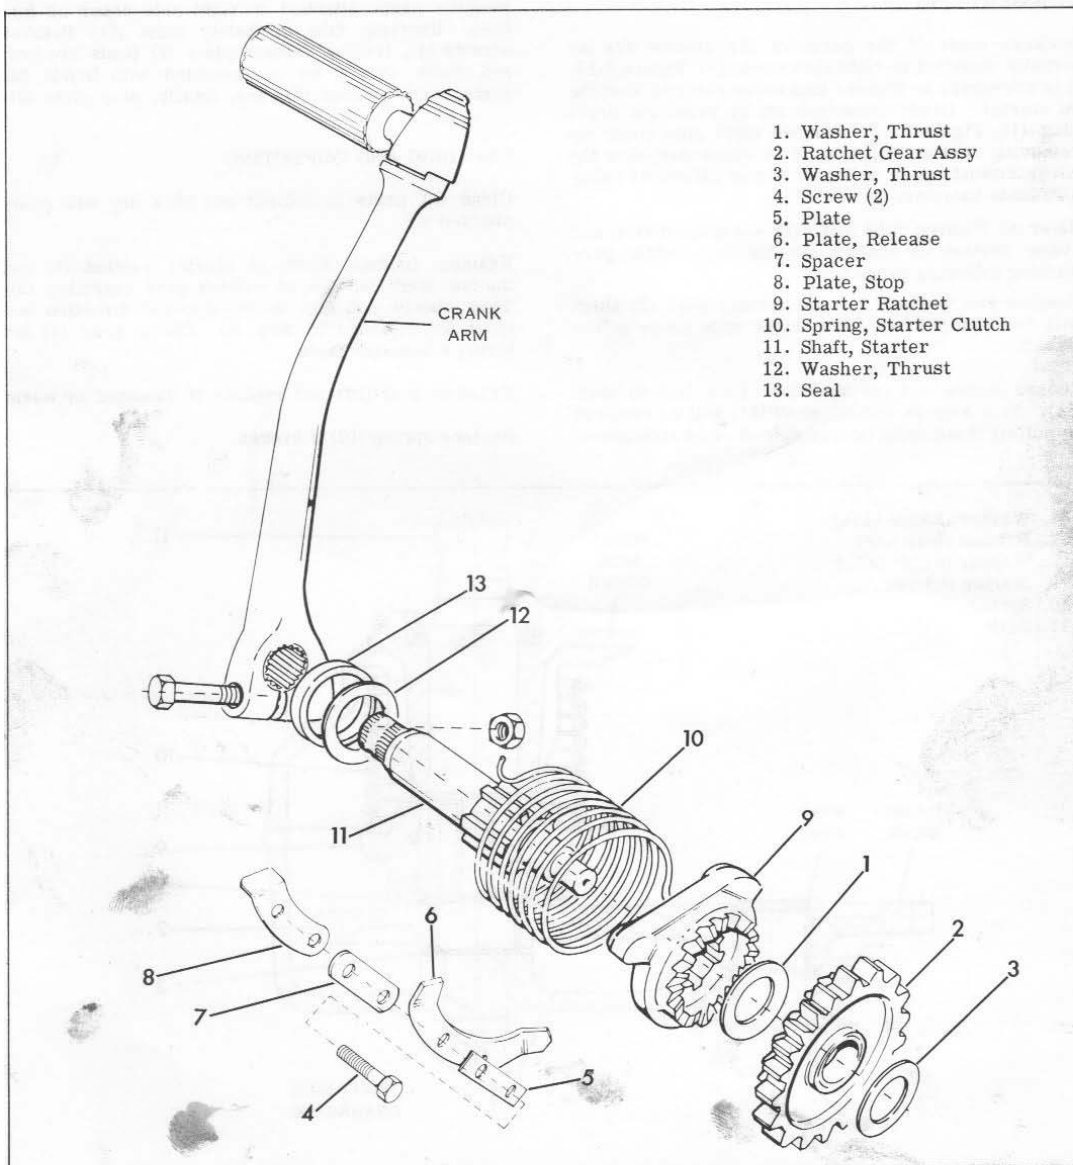

Figure 4.10. Exploded View of Starter
when starter pedal is either completely down or completely up, starter is disengaged by release plate (6), Figure 4.10. This is due to the cam action of starter ratchet (9) riding on the formed ends of plate (6), positively disengaging starter clutch.
Refer to Figures 4.10 and 4.11 — exploded view and cross section of starter mechanism — while performing following procedure.